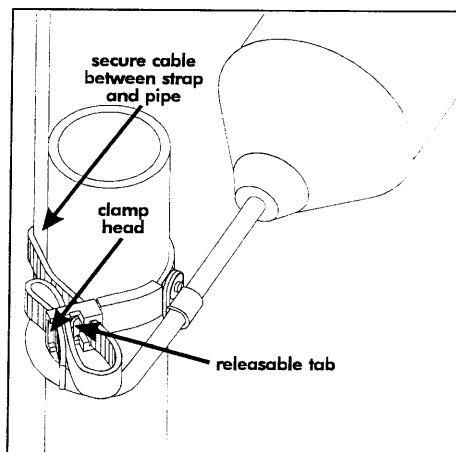

FIGURE 2 - Pipe clamp mounting detail
- Mount float switches at appropriate levels via stationary device as illustrated in **Figures 2 & 3**. Be sure that floats have free range of motion without touching each other or other equipment in the basin.